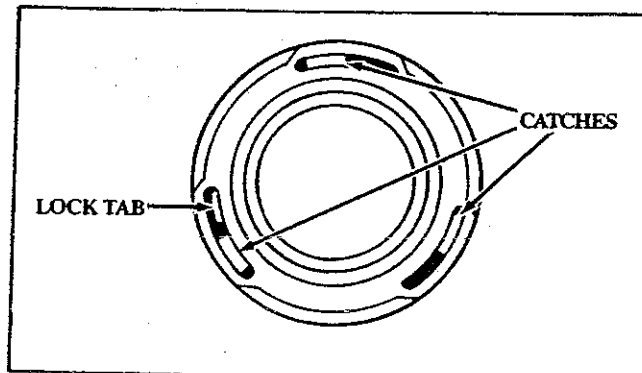

Figure 19
- Check to make sure all three Catches and the Lock Tab are properly fastened (as shown in Figure 19) by attempting to turn the Lock Ring counterclockwise and pulling on it. Then test the Lock Ring by trying to turn it counterclockwise.